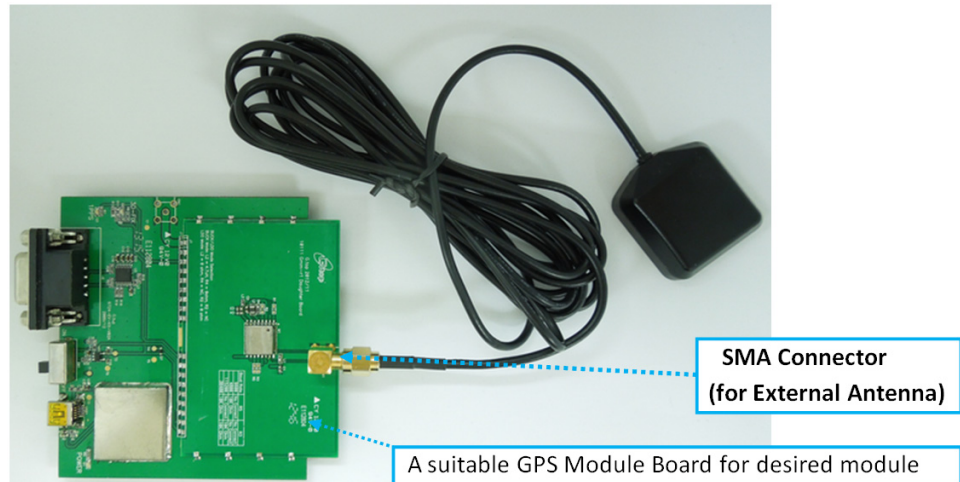

Figure 3-2: Using an External Antenna
1. Use an External Antenna with the GPS Module as shown in Figure 3-2.